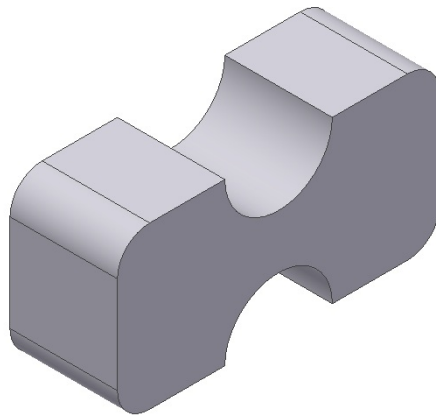

Figure 14-49 Rotated view of filleted model
4. Choose **OK**; the fillet is added to the model and the model looks similar to the one shown in Figure 14-49.